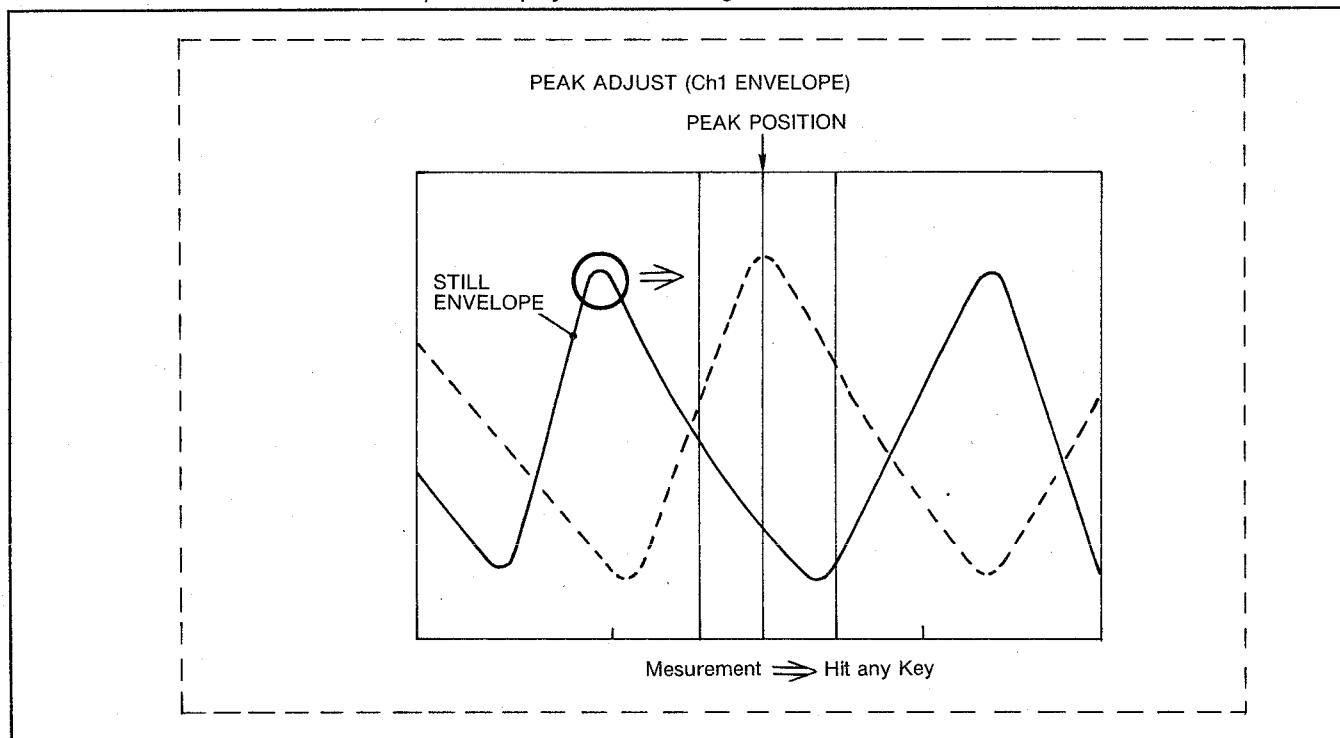

Fig. 8-3-1
3) Rotate capstan shaft slowly by hand so that the peak of Saw Tooth envelope is set to the peak position of Measurement Menu on Computer Display as shown in figure 8-3-1.